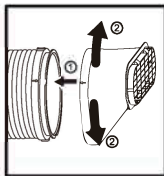

Fig. 2
2. Align the arrows on the hose outlet and the hose. Attach the hose outlet connector by turning it either clockwise or counterclockwise. (Fig. 2)